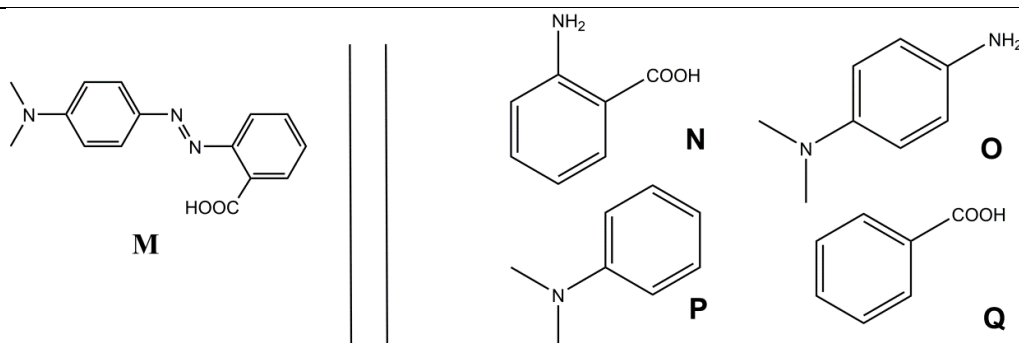

Fig. 1 – Possible reactants for the synthesis of **M**.
2. **M** can be synthesized in two steps from simple reactants (**Fig. 1**). **Choose** among the suggested reactants (**N** to **Q**) the ones that can provide **M** with very high regioselectivity.